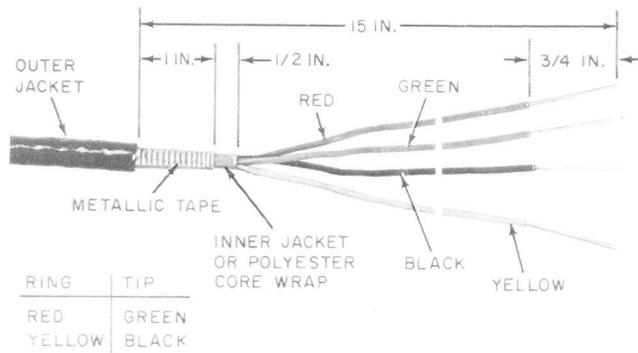

Fig. 29—Prepared Service Wire—UP-200 Cable Closure
7.12 Prepare the service wire as shown in Fig. 29.